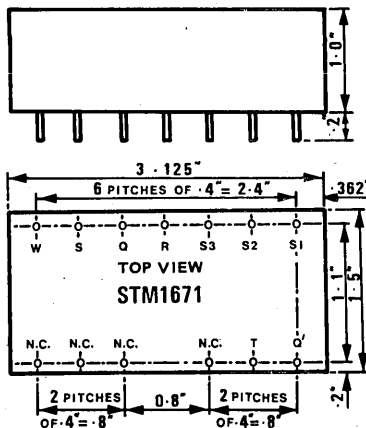

Figure 3. STM 1671 and 60Hz SCDX Modules
**60Hz operation.** In this case the signal input uses four pins to the SCDX or RCDX modules which will be marked QRST, these pins take in resolver format signals (2 volts rms max.) Pin T is common, S is plus cosine, R is plus sine, and Q is minus cosine. The pins QRST on the RCDX or SCDX module must be connected to the pins QRST on the transformer module, i.e. Q + Q etc. In the case of 60Hz synchro use the inputs must be applied to the pins marked  $S_1$ ,  $S_2$  and  $S_3$  on the transformer module. In the case of 60Hz resolver use the sine input must be applied between  $S_1$  and  $S_3$  and the cosine input between  $S_2$  and W. (The sense of the connections is such that if W and  $S_3$  are regarded as common then  $S_1$  and  $S_2$  will be in time phase with each other in the first quadrant.) No reference input is used in this module. A diagram showing the SCDX module and the STM 1671 transformer module pin arrangement and marking is shown in Fig. 3.